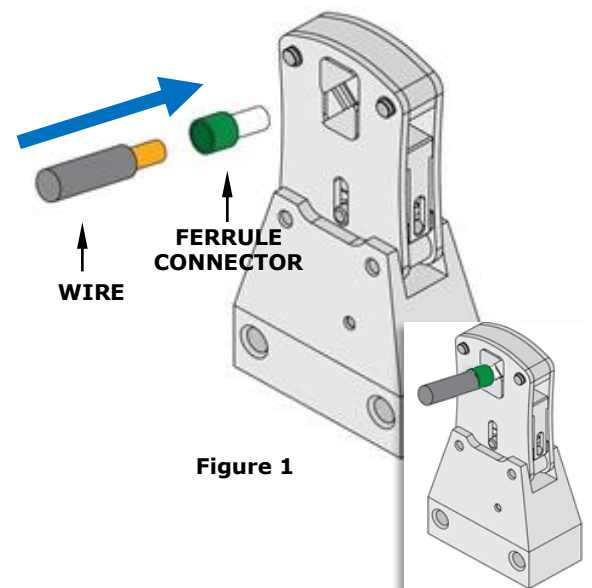

Figure 1
2. Place the ferrule connector with the wire onto the jaw of the tool, ensuring that the end of the ferrule does not extend beyond the side face of the jaws. See Figure 1.